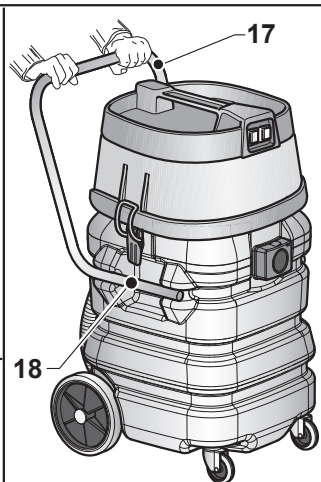

Fig. 11
- The appliance is equipped with wheels and can be pushed with the handle (17 Fig. 11).
- It should be lifted by two people using the handles (18 Fig. 11) located in the lower part of the large handle.